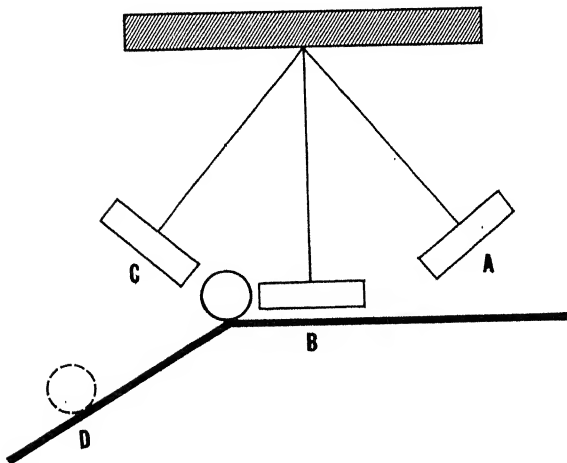

Figure 6A.-Transformation of energy.
- Refer to figure 6A and select from the following alternatives when answering items 6-2 through 6-7.